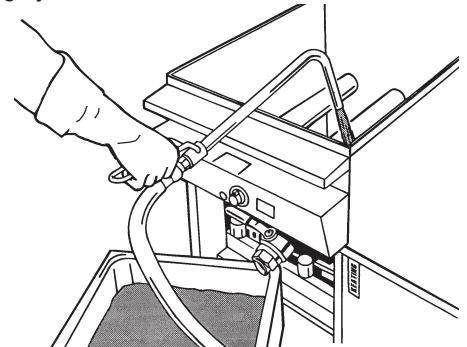

Figure 2-3
7. Close fryer drain valve (See Figure 2-3).